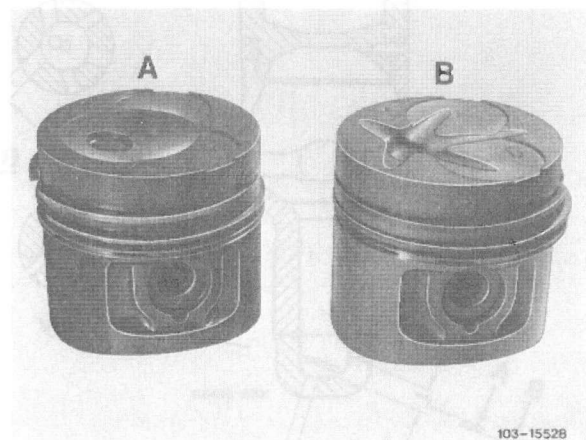

Fig. 179
For better distribution or swirling of fuel-air mixture in combustion chamber the piston crown is provided with a star-shaped combustion chamber cavity (B). In addition, the piston has a smaller diameter (90.9 mm). The star-shaped recesses are in uniform alignment with combustion bores in prechamber (B, Fig. 179).